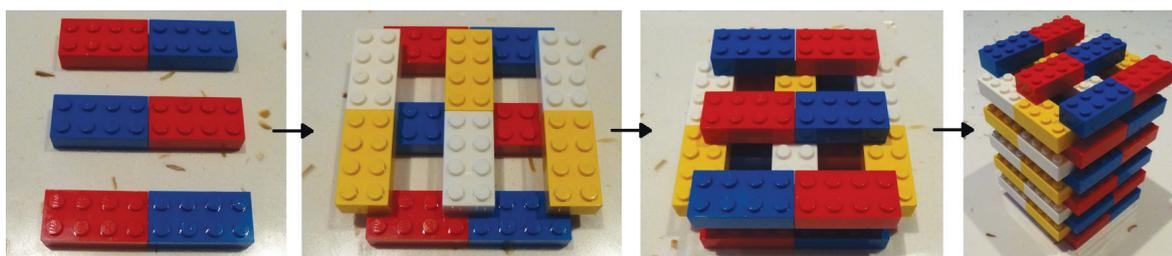

Figure 3: Example of a 3D LEGO™ crystal.
4. Now, try building a three-dimensional crystal (see Figure 3). This works best if you start by building a two-dimensional crystal layer on a LEGO™ base. Then you can build upwards layer by layer, like when you build the tower for a game of Jenga. If you have enough bricks you can go on forever in all three dimensions.